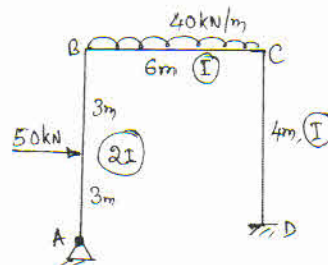

Fig Q4
- 4 Analyse the frame shown in Fig Q4 using moment distribution method. Sketch BMD. (20 Marks)